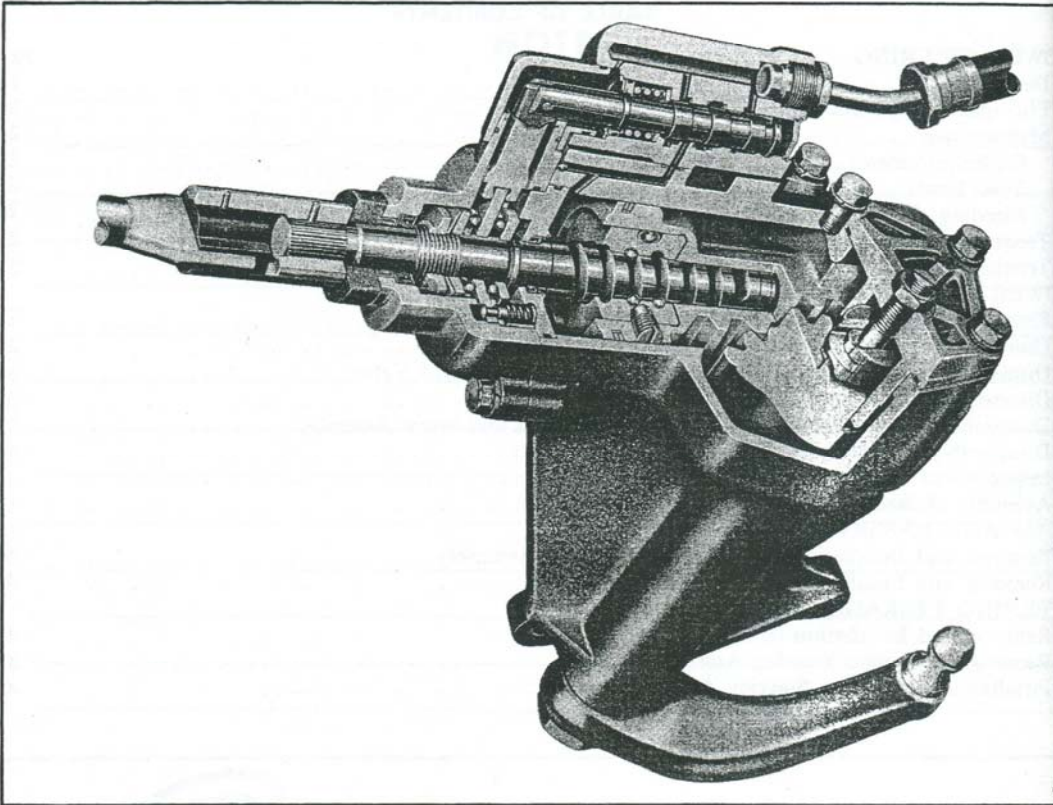

Fig. 2—Cutaway View of Power Steering Gear
This "In-Line" power steering mechanism is composed of (1) A rack, piston, worm and ball nut assembly which is meshed to the gear on the steering sector shaft. See figure 2. (2) A hydraulic valve which is mounted on the top outside of the gear housing parallel with the steering shaft, is operated through an actuating lever, by the motion of the steering shaft. See figure 2. (3) A hydraulic pump driven by a belt from the engine and an oil reservoir which is attached to the pump. (4) Connecting pipes and hoses.
The "In-Line" type of power steering mechanism as illustrated in figure 2, is designed with the steering shaft, worm and ball nut, power piston and rack and the power cylinder all in line. With the hydraulic valve mounted on the top side of the gear housing it makes possible internal oil passages between the valve and cylinder, thus eliminating all external lines and hoses except the pressure and return hoses between the pump and valve.